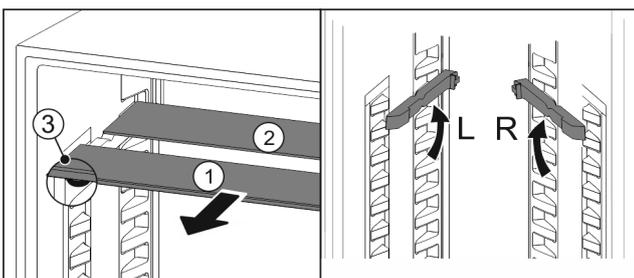

Fig. 86
- ▶ Pull the glass panels out Fig. 86 (1) from the front, one at a time.
- ▶ The glass panel Fig. 86 (1) and trim strip are at the front.
- ▶ The stops Fig. 86 (3) point down.